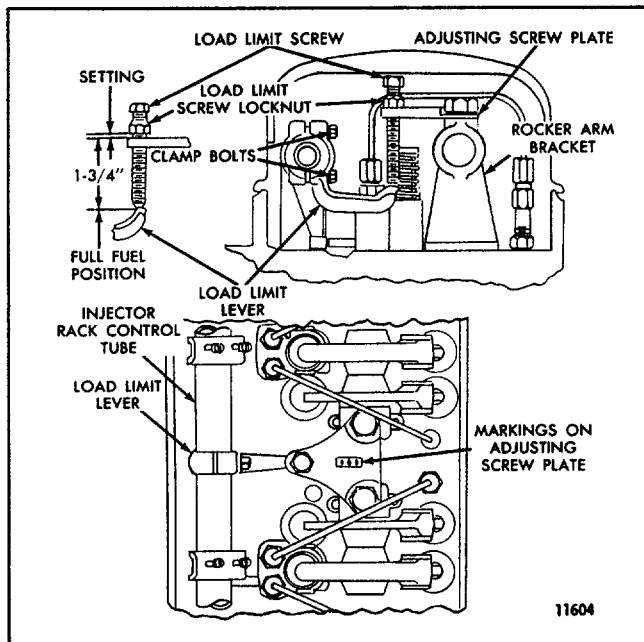

Fig. 1. - Engine Load Limit Device
Engines with mechanical governors may be equipped with a load limit device (Fig. 1) to reduce the maximum horsepower.
After the engine tune-up is completed, make sure the load limit devices are properly installed as shown in Fig. 1. Make sure the counterbores in the adjusting screw plates are up. The rocker arm shaft bracket bolts which fasten the adjusting screw plate to the brackets are tightened to 75-85 lb-ft (102-115 Nm) torque (all other rocker arm shaft bracket bolts are tightened to 90-100 lb-ft or 122-136 Nm torque). Then adjust the load limit device, on each cylinder head, as follows:
3. With the screw out of the plate, adjust the load screw locknut so the bottom of the locknut is 1 3/4" from the bottom of the load limit screw for the initial setting (Fig. 1).